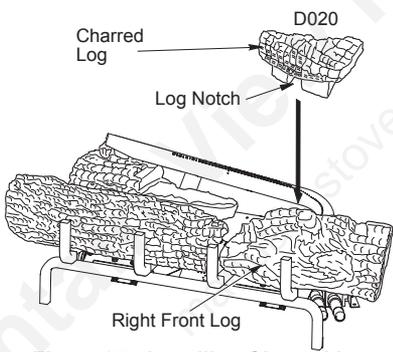

Figure 27 - Installing Charred Log
- Find the charred log (D-020). See **Figures 27, 27A, and 27B**. The log has a slot in the bottom that fits over the square grate and rests against the burner tube as shown in **Figure 27**. Place this log on the base as shown in figures.